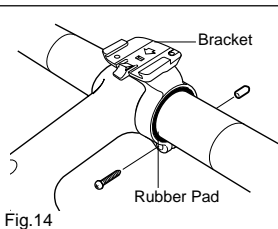

Fig. 14
- By using the rubber pad, attach the bracket close to the handlebar stem (Fig. 14).